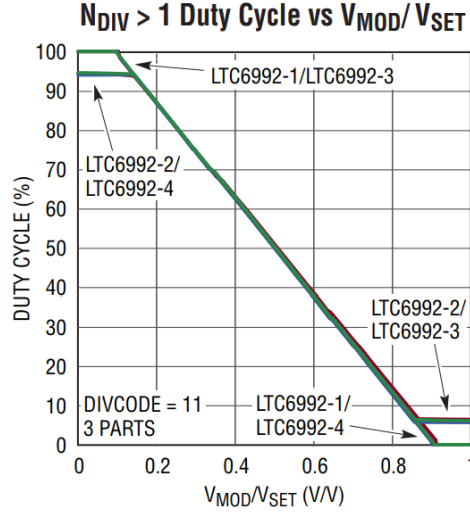

Fig. 3: Relationship between  $V_{mod}$  and duty cycle for the PWM used on the test board.
The LTC6992 pulse-width modulator's duty cycle is controlled by the voltage at  $V_{mod}$  according to the plot of Fig. 3 ( $V_{set} = 1V$ ).
where  $D$  is the steady-state (DC) duty cycle and  $A_{mod}/V_M \sin(\omega_x t)$  is the AC perturbation to the duty cycle. The frequency is the same as that of the modulation voltage and the amplitude of this perturbation is  $A_{mod}/V_M$ , where  $V_M$  is the carrier amplitude,  $V_M = \partial v_{mod}(t) / \partial d(t)$ , which can be read off of Fig. 3.
be the value that will give the correct duty cycle so that the converter will output 5V from an 8V input, in accordance with Fig. 3.